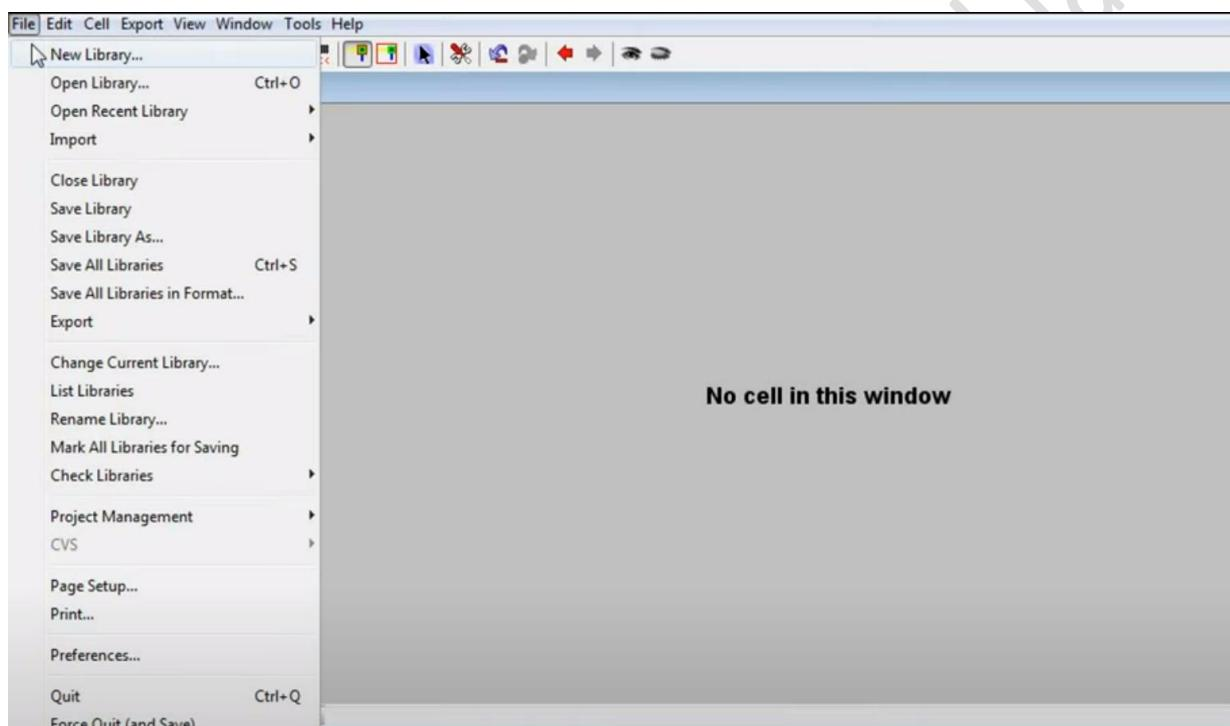

Figure 1.4: Creating a new library.
2. Create a new library by clicking on File >> New Library (see Figure 1.4).